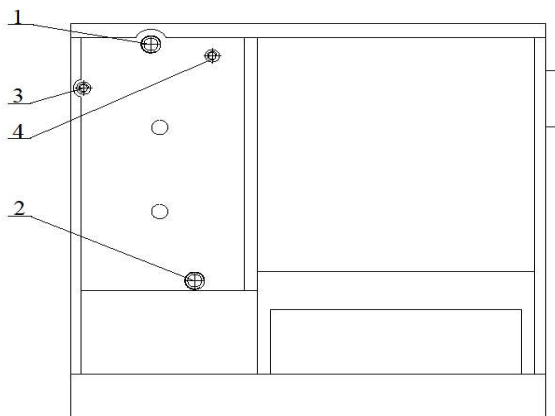
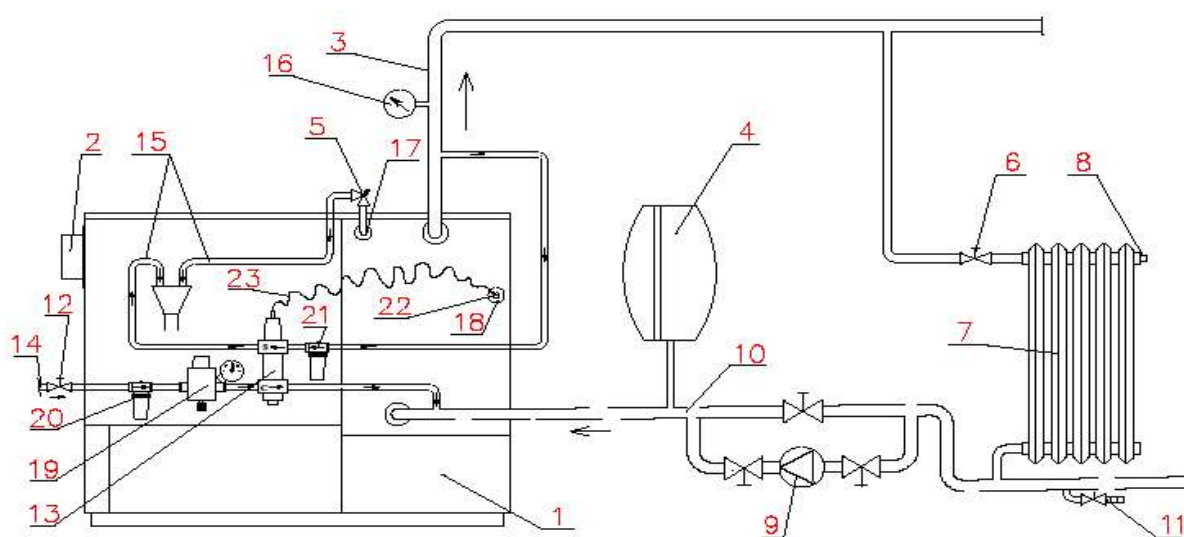
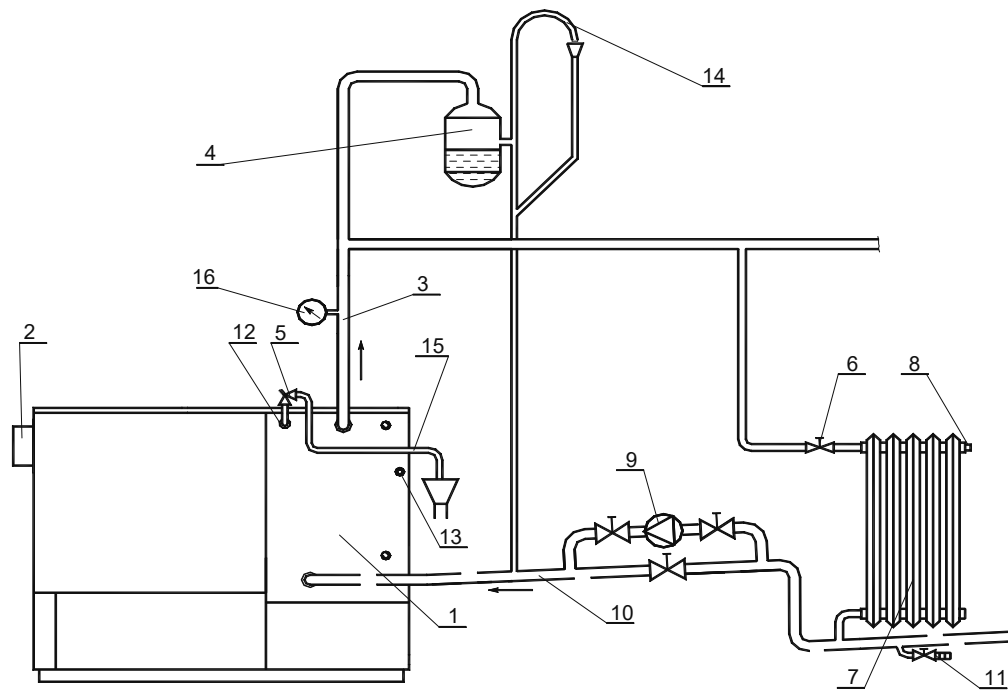

Figure 4
Figure 7
Figure 8
- safety valve (Fig. 7 and 8, Item 5) which MUST be installed on an R1/2" connection (Fig. 4, Item 4.)
It can be installed in closed and open heating system. Adhere to the regulations JUS M.E7.201 and JUS M.E7.202. Diagrams of closed and open system are shown on fig.7 and fig.8.
The back of the boiler and connections are shown in Fig. 4 where:
6.1 DISCHARGE AND RETURN LINE (fig.4 pos.1 and 2 and fig.7 and fig.8 pos.3 and 10)
1. Thermal valve with built-in thermal protection type 544, 1/2", product Caleffi (Fig. 7a) and Fig. 7, Item 13.
2. Slope pressure regulator with manometer 1/2", the same or similar as shown in Fig. 7b and Fig. 7, Item 19.
3. Filter for cold water at the input of the water supply to the thermal valve, Fig. 7, Item 20
4. Filter for hot - boiling water intake of the boiler and water outlet of thermal valve, Fig. 7, Item 21.
Installation of thermal valve with built-in thermal protection (Fig. 7, Item 13 and Fig. 7a) with additional elements ensuring safe operation, such as pressure regulator (Fig. 7, Item 19 and Fig. 7b). Water filter on the boiler intake (Fig. 7, item 20) and water filter on the boiler outlet in closed central heating system is **MANDATORY**. This specially refers to a closed system, when the radiators are submerged and where in case of termination of the pump operation for any reason, the water temperature in the boiler rapidly increases and overheating occurs very quickly.
6.2.1 THERMAL VALVE WITH BUILT-IN THERMAL PROTECTION (Fig. 7, Item 13 and Fig. 7a)
The thermal fuse probe (Fig. 7, Item 22) is best to place in the thermal valve connection (Fig. 7, Item 18). It can be placed on the discharge - distribution pipe (Fig. 7, Item 3) but at a distance from the boiler of 500 mm the most or at the highest point of the boiler before the exhaust pipes.
Fig. 7 shows the thermal valve installation diagram.
6.2.2 SLOPE PRESSURE REGULATOR 1/2" WITH MANOMETER (Fig. 7, Item 19 and Fig. 7b)
When installing the thermal valve it is required to mount the slope pressure regulator as shown in Fig. 7, Item 19. The pressure that is maintained by pressure regulator must be set at a higher pressure than the pressure that is in the heating system. If you do not have a higher water pressure of at least 0.8 bar compared to the pressure in the heating system thermal valve will not work or cannot inject cold water into the boiler that needs to be cooled.
6.2.3 WATER FILTER OF THE BOILER INTAKE (Fig. 7, Item 20)
6.2.4 WATER FILTER OF THE BOILER OUTLET (Fig. 7, Item 21)
6.3 SAFETY VALVE (fig. 7 and 8 pos. 5 and fig. 4 pos. 6)
On the back side of the boiler under the hob, a connection R1/2" is welded (fig.4 pos.6) in which you are OBLIGED to set a safety valve. The safety valve should be between 2,5 to 3 bar. It can be installed directly on the terminal or at a distance from the stove of 1m the most, provided that there is no block valve between the boiler and the safety valve.